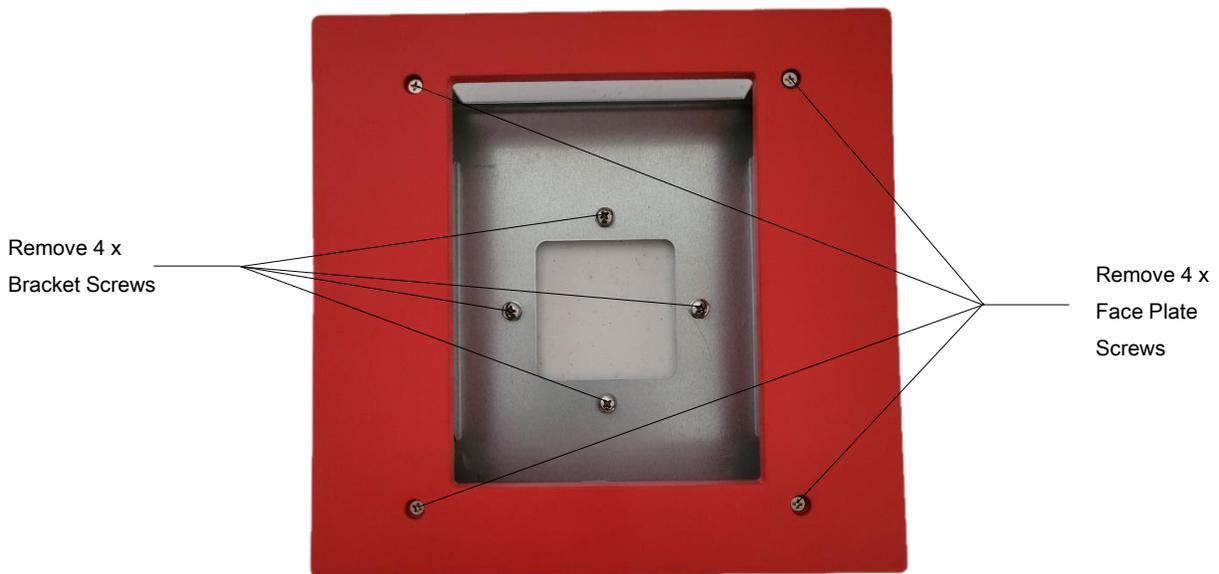

Figure 70: APV3-BDA - Flush Mount Kit Face Plate and Bracket Screw Removal
Follow the instructions below and see Figures 70 through 74, to flush mount the APV3-BDA:
- Remove the (4) Philips head screws holding the faceplate to the mounting bracket. Do not discard screws as these will be used to reinstall the face plate. Remove the face plate.
- Remove the (4) screws that are attached to the mounting bracket from the factory. These screws will be used in the next step to attach the APV3-BDA standard mounting bracket to the flush mount bracket. See Figure 70 below.